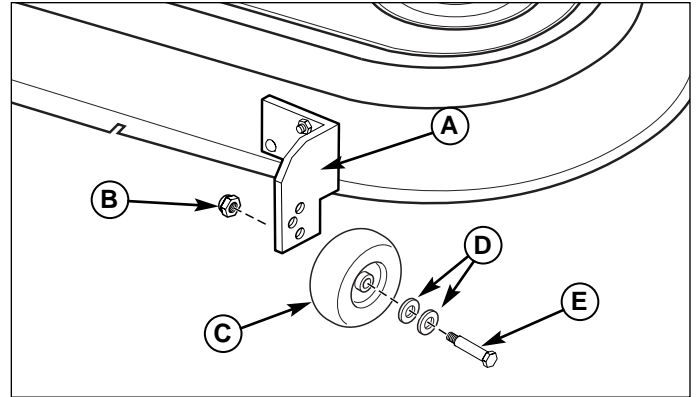

Figure 36. Fixed Bracket Gauge Wheel Adjustment
1. Remove the locknut (B, Figure 36), gauge wheel (C), washers (D), and shoulder bolt (E). Change position of gauge wheel to desired height.
2. Insert shoulder bolt (E) through washers (D) gauge wheel (C), and gauge wheel bracket (A). Secure with locknut (B). Repeat steps 1 & 2 for all gauge wheels.